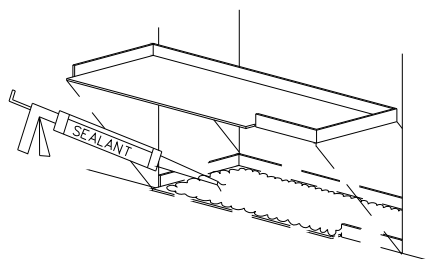

Figure 4:
- Secure the sillpan to the floor with glue. Position sill pan as necessary to allow for proper installation of frame assembly. **Caution:** For pocket doors do not forget required space for post interlocker. Sill track is located 3/8" from pocket wall on side with post interlocker (Figure 4).